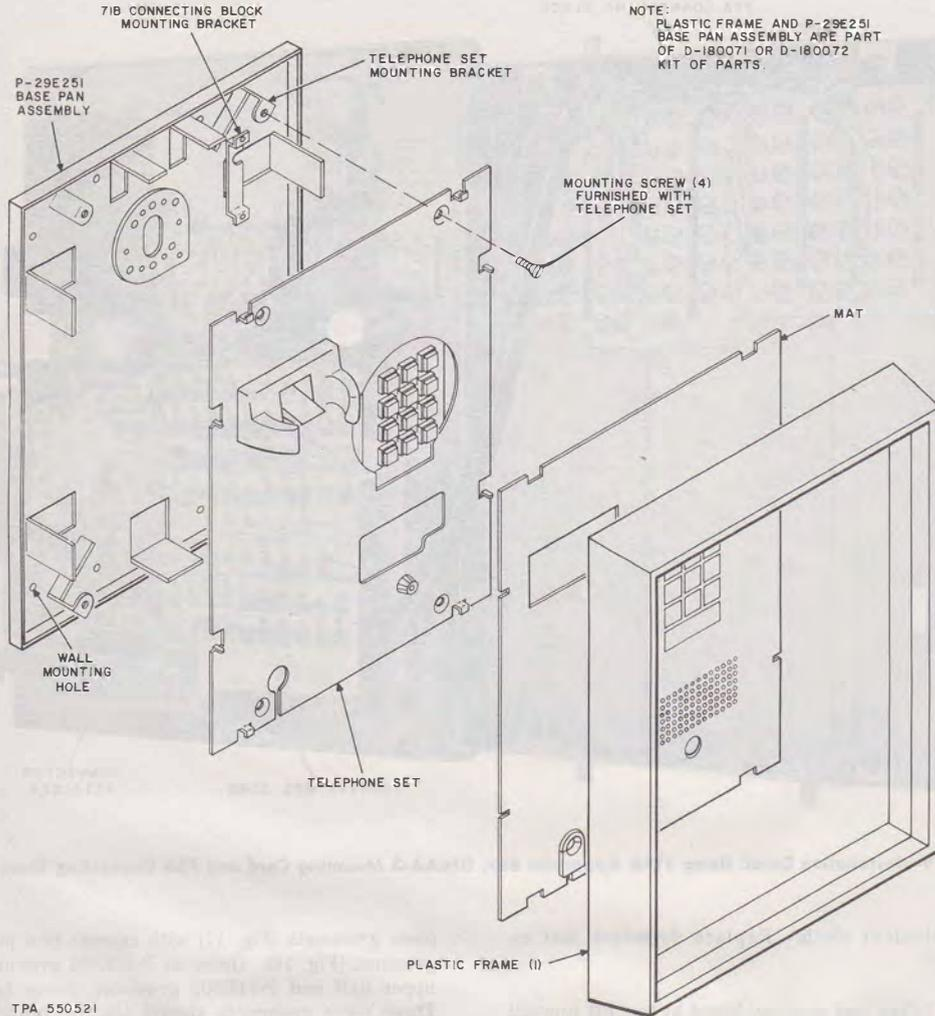

Fig. 10—Surface Mounting Panel Type Telephone Set
be surface mounted (Fig. 10) using a D-180071 (light gray) or D-180072 (light beige) Kit of Parts as follows:
- (1) Install the 71B connecting block to the bracket provided on the base pan (Fig. 10). Terminate inside wire or cable and telephone set mounting cord as shown in appropriate Service section.
- (2) Connect mounting cord plug to connector on set panel. Dress mounting cord to avoid interference with telephone set components.
- (3) Align panel of set with mounting screws furnished with the set.
- (4) Position mat on panel and secure using plastic frame (P-89C260 or P-89C261) from kit of parts.
- (1) Grasp mat retainer frame at top, lift upward and out to release frame from panel of set.
- (2) Remove handset from hook of set.
- (3) Pull out handset cord to allow working slack.
- (4) Remove mat from face of panel.
- (5) Remove one or two piece grommets from mat by twisting grommet clockwise until the grommet flange lines up with the slot in the mat (Fig. 10) and lift out. Replace three piece grommets (Fig. 17) with current two piece grommet (Fig. 16). Order as P-44E501 grommet, upper half and P-44E502 grommet, lower half. Three piece grommets should also be replaced on maintenance visits.
- (6) Install grommet in new mat by reversing procedure used in removal.
- (7) Position mat on panel and secure using the mat retainer frame.